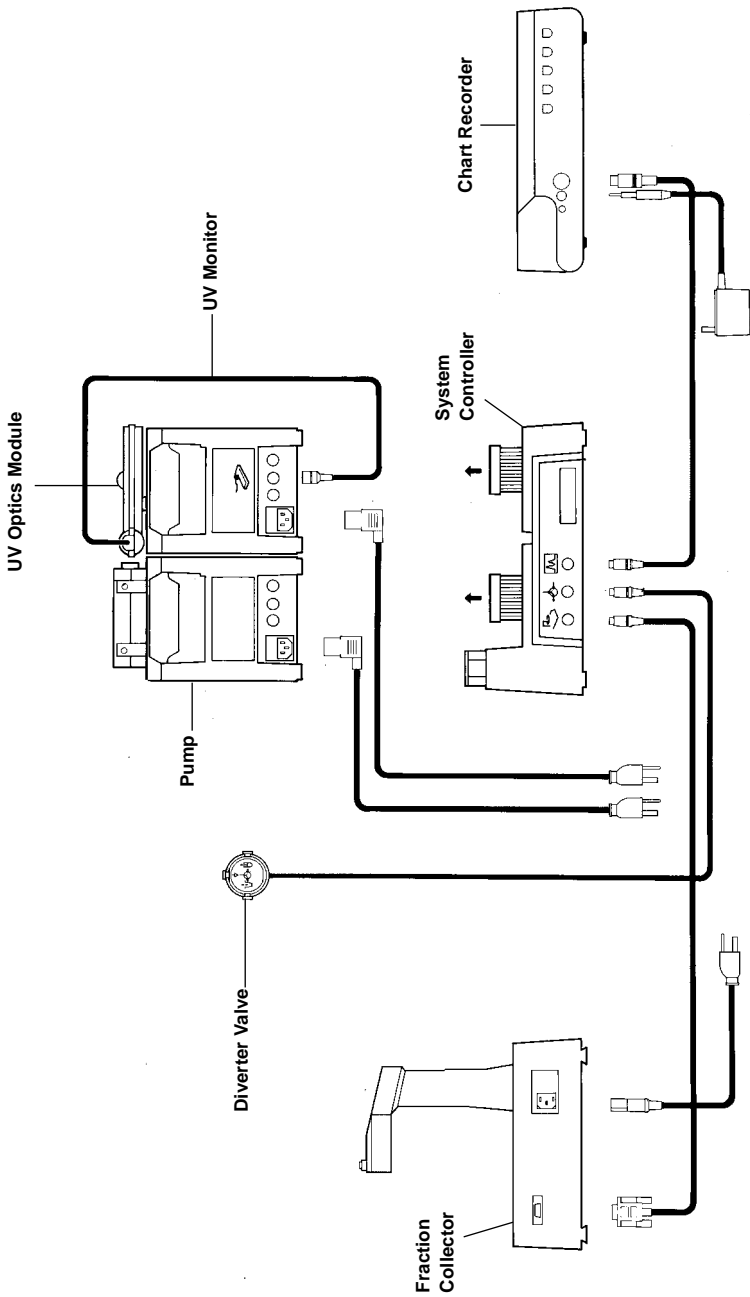

Fig. 3. Electrical connections of the standard Econo System (back panel view of system components).
3. Position the chart recorder, rack and fraction collector as illustrated in Figure 2. Connect the chart recorder and fraction collector to the system controller and to power outlets as illustrated in Figure 3. The solvent reservoir included with the system controller sits in the depression on top of the system controller (behind the pump and UV monitor)
4. Attach the diverter valve to the rack and connect it to the rear panel of the system controller (see Figure 3).
5. Attach power cords to the rear panels of the pump and monitor (Figure 3).